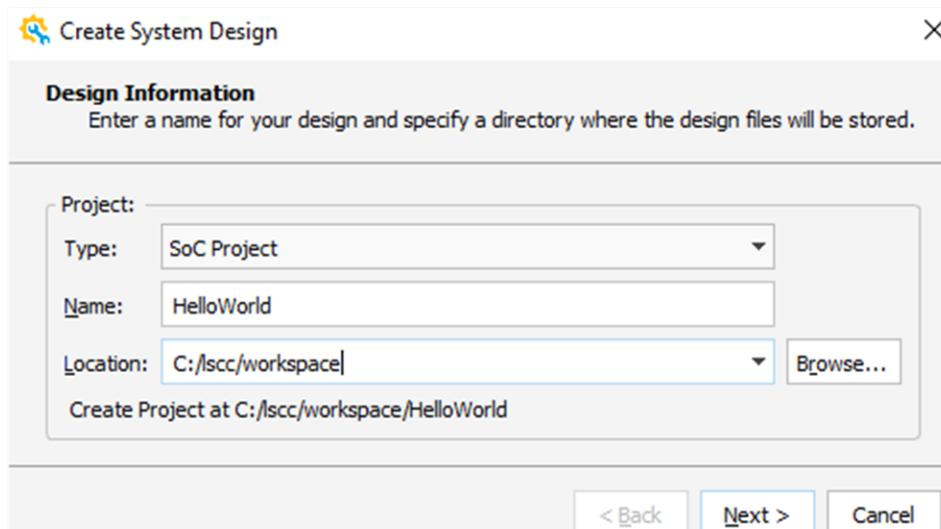

Figure 2.2. Create System Design – Design Information Wizard
1. Choose **File** >  **New Design** from the Lattice Propel Builder Menu bar. The Create System Design wizard (Figure 2.2) opens.